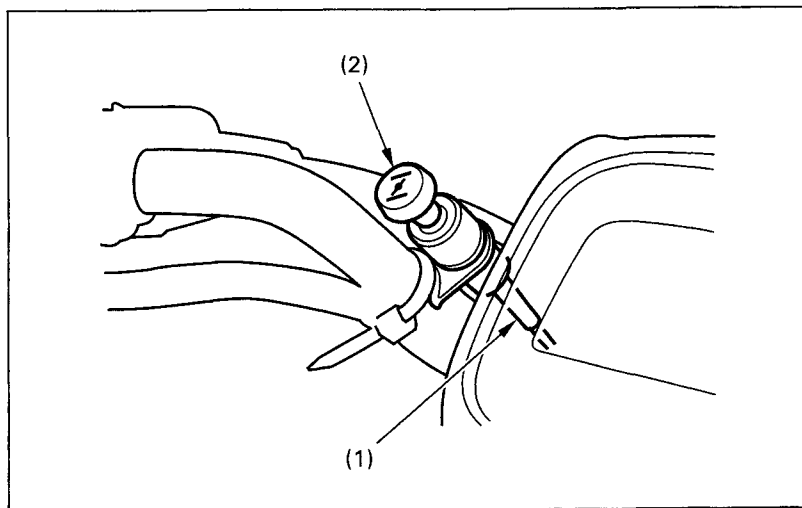

Fig. 4-8 (1) Choke cable
Check the condition of the choke cable (Fig. 4-8) and the operation of the choke knob (2). If the cable is damaged or kinked, have it replaced by your Honda dealer.